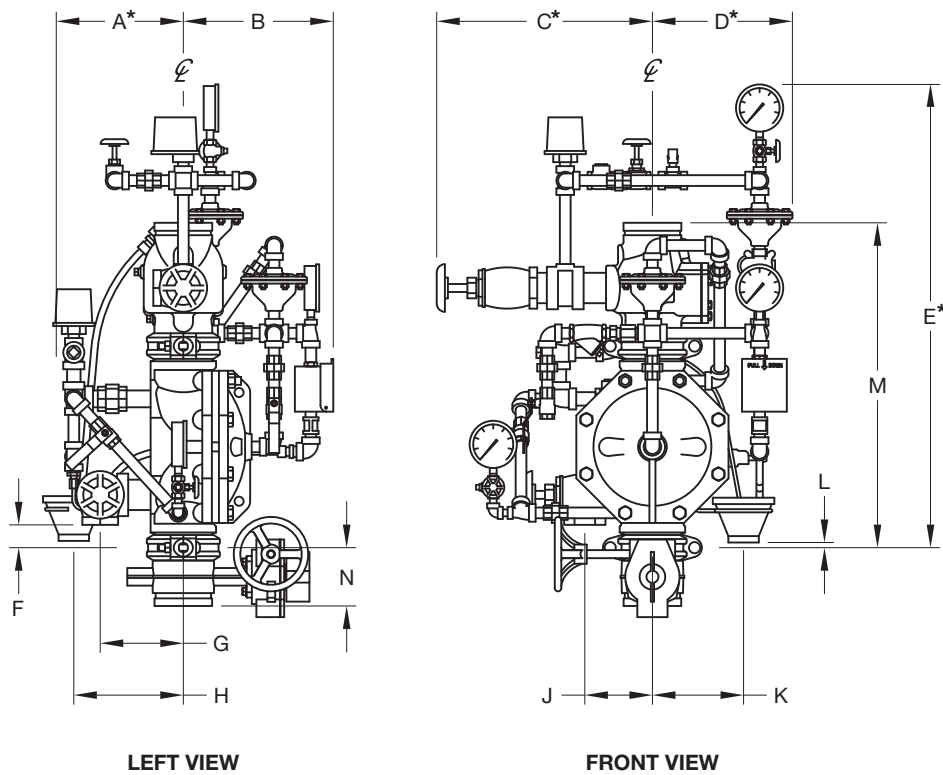

FIGURE 4
Step 7. Connect the Diaphragm Chamber Supply Control Valve to the inlet side of the system's Main Control Valve in order to facilitate setting of the DV-5 Valve (Fig. 4).